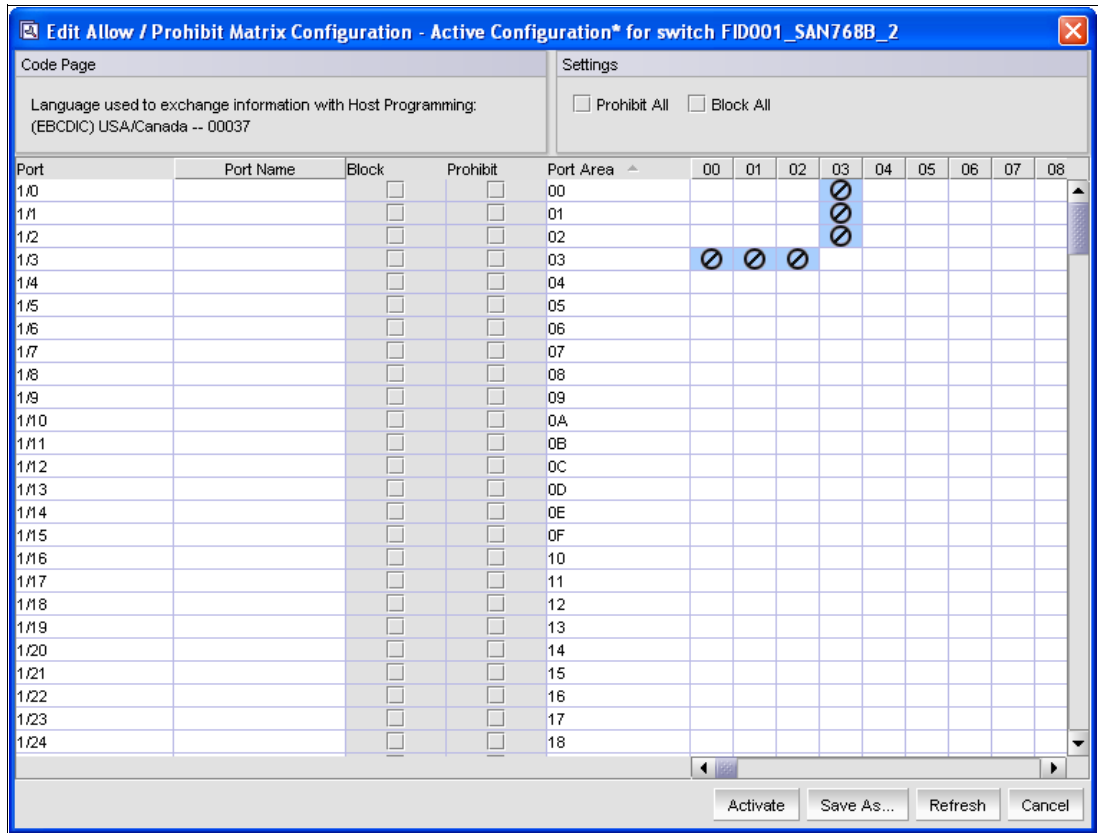

Figure 8-48 Allow/Prohibit Matrix
6. After you make your selection and click Edit or New, the window shown in Figure 8-48 on page 290 appears.
At this point, you can modify the matrix by clicking in the fields to allow or prohibit a connection. Figure 8-48 shows that port 03 (hex) is prohibited to connect to ports 00, 01, and 02. All other ports are allowed to connect to port 3.